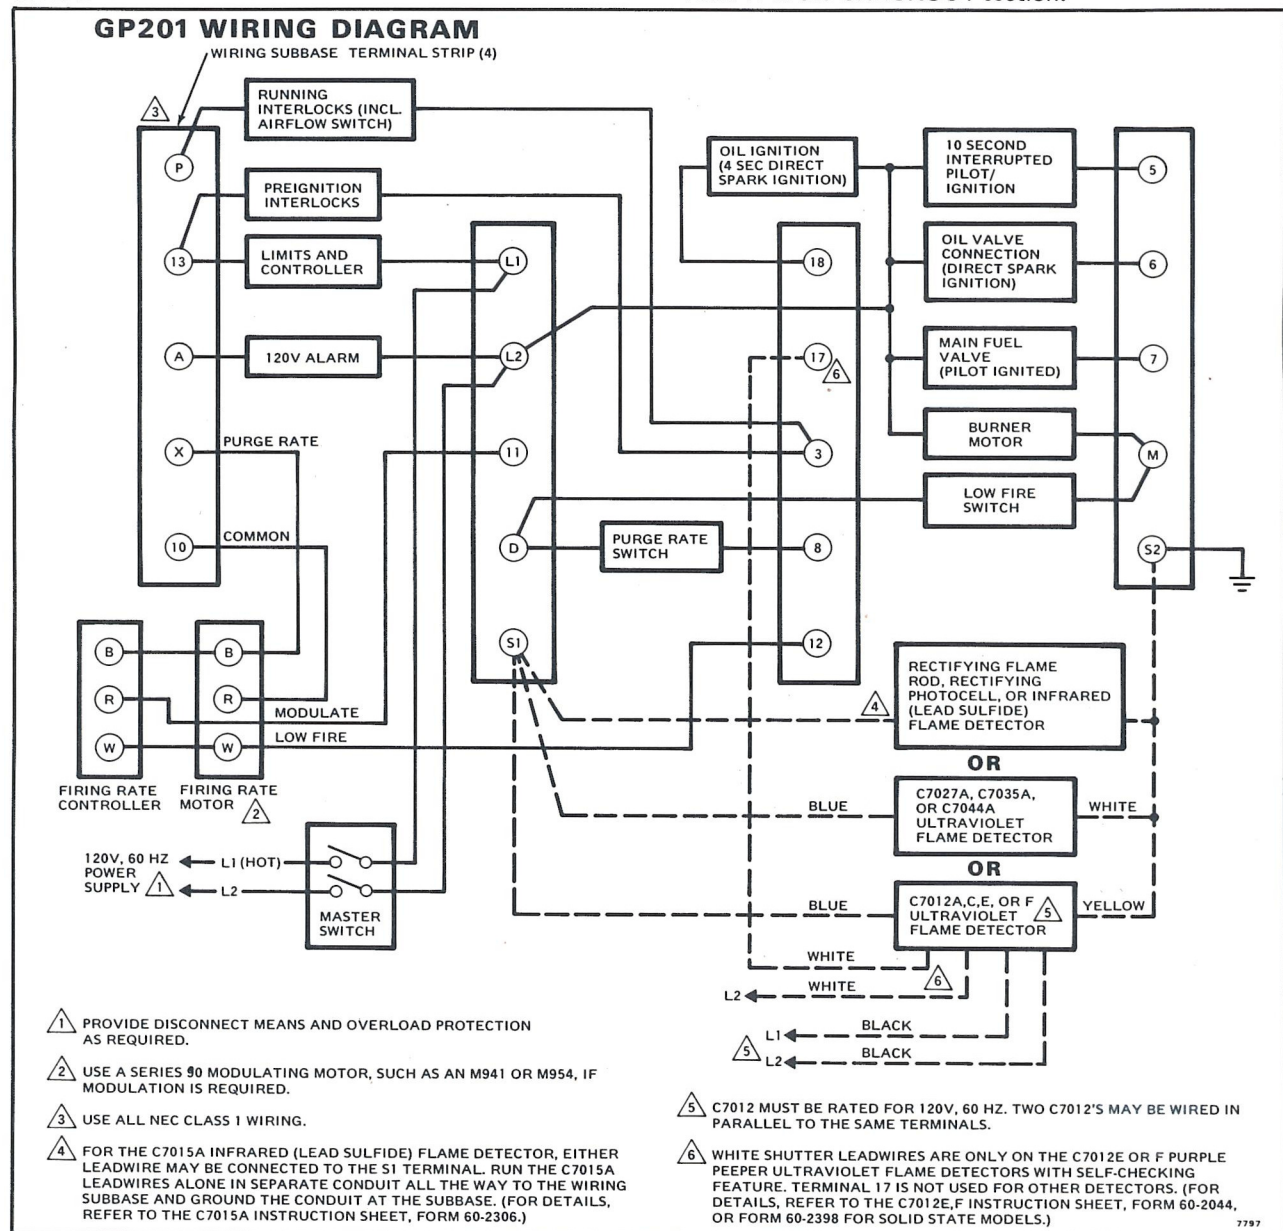
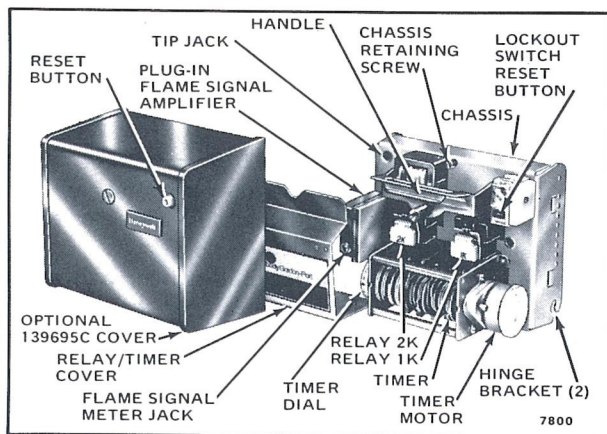

Fig. 4—Sample block diagram of field wiring for the GP201 Programmer.
Fig. 8—Components of the GP201 Programmer.
## WIRING TO SUBBASE (FIG. 4)
5. Refer to Fig. 4 for typical field wiring connections. Follow wiring diagram if provided.
Refer to Fig. 4 for terminal locations, and to Fig. 8 for locations of component parts.
7. Lockout switch is reset (push in lockout switch reset button, Fig. 8).